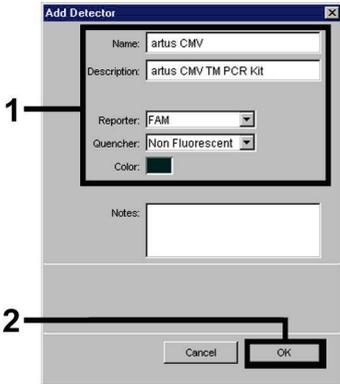
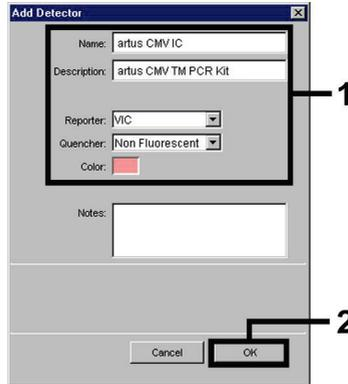
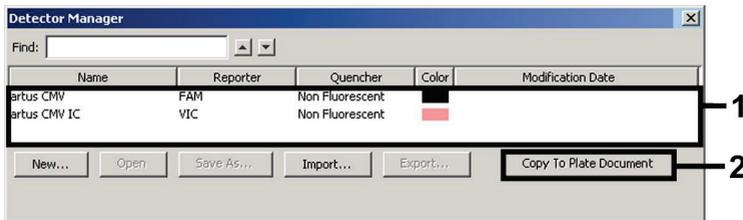

Fig. 17: Creating the CMV specific detector (Detector Manager).
Fig. 18: Creating the IC specific detector (Detector Manager).
Fig. 19: Selecting the detectors (Detector Manager).
For the detection of CMV DNA define the reporter/quencher combination **FAM/Non Fluorescent** in the new window. For the detection of the *Internal Control*, select the combination **VIC/Non Fluorescent** (as shown in Fig. 17 and Fig. 18). By confirming the input data (OK), return to the *Detector Manager*. Mark the newly created detectors and transfer each selection to the *Setup* level by clicking on the option *Copy to Plate Document* (see Fig. 19). Close the window (*Done*).